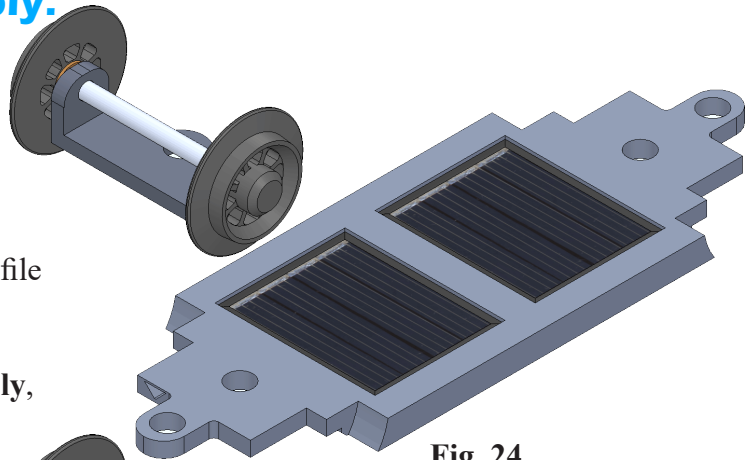

Fig. 24
Step 3. Click to place **Car Bogie Assembly**, **Fig. 24**.